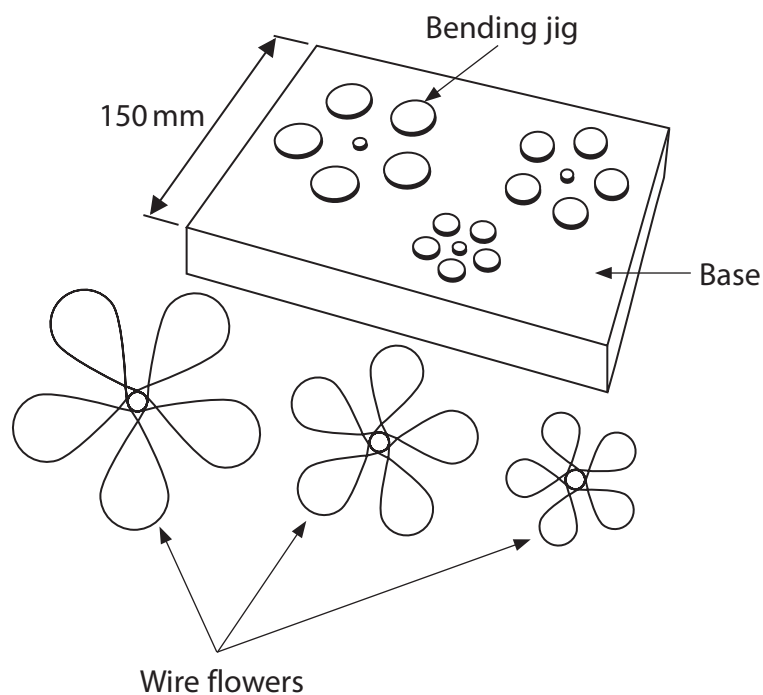

Figure 2
- 2 Figure 2 shows a bending jig that is used to make three separate, different-sized wire flowers for some jewellery.